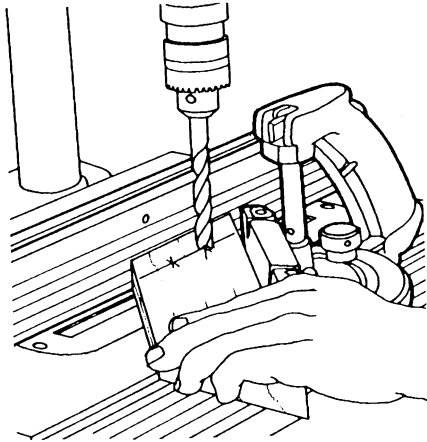

Figure C-31
1. The rip fence and the miter gauge can be locked on the table in a variety of different configurations to drill duplicate holes in duplicate pieces of stock. See Figs. C-31 through C-33.